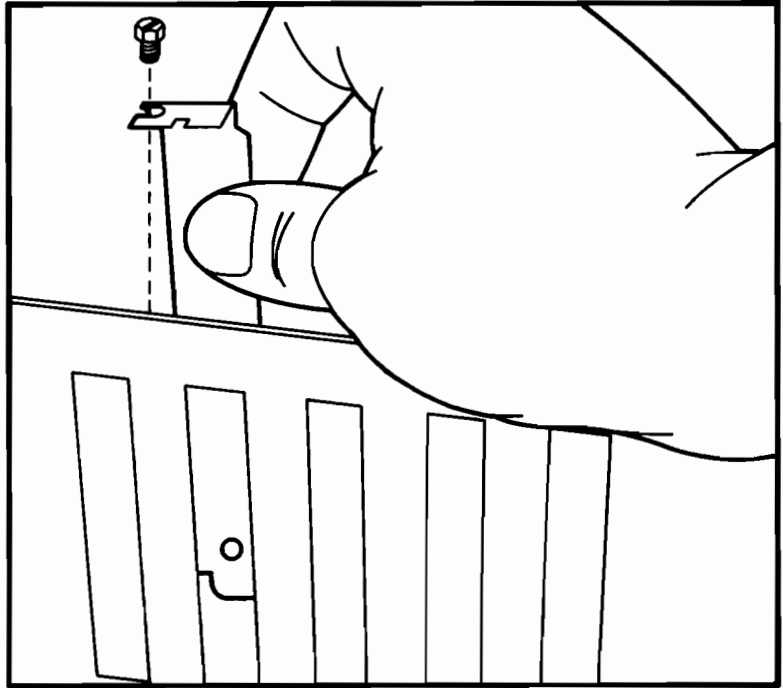

Figure 7. Removing the Slot Cover Plate
5. Remove the cover plate of the slot by removing its mounting screw and lifting it from its location (see Figure 7).